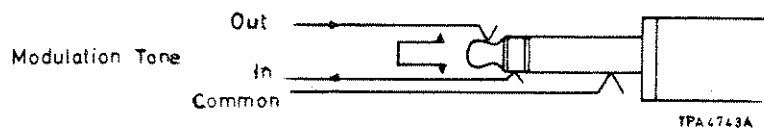

Fig. 2 Connections to external filter jack
(1) Remove both top and bottom outer covers, detach and discard front and rear feet on bottom cover.
(2) Detach and discard side trim infills, countersunk screws and screw cups.
(3) Remove the front panel assembly and lay face down protecting the l.c.d's.
(4) If it is required to bring the r.f. input in via the rear panel, carry out steps (5) to (8) otherwise go to step (9).
(5) Remove the r.f. input coaxial socket from the front panel and transfer it to the blanked-off position on the rear panel (see Figs. 2 and 3, pages 4 and 6 in Chapter 3 for precise locations). It is not necessary to remove either of the two coaxial terminals from the r.f. lead in this process. Note that the lead is doubled back on itself for the full depth of the instrument before returning to the miniature bulkhead connector on the r.f. box immediately behind the front panel.
(6) Unscrew the miniature connector and remove the type N r.f. input socket from the front panel by undoing the securing nut. Release the cable from its securing cleats and withdraw it completely from the instrument.
(7) Remove the blanking off grommet from the hole in the rear panel and put it in place of the connector in the front panel. Remove the type N securing nut and washer from the lead by passing them over the miniature connector. Feed the lead back into the instrument by passing the miniature connector through the hole in the rear panel. Replace the washer and nut on the lead by passing them over the miniature connector. Feed the lead fully through the rear panel and assemble the type N connector to the panel.
(8) The lead should be routed down through the recess in the edge of the bulkhead below the new input position. It can then be led diagonally across the base of the power supply, secured in place with a piece of adhesive tape, and returned to the original run of cleats along the bottom of the left-hand side panel and reconnected to the input bulkhead connector on the r.f. box.
(9) Fit the rack brackets in the recesses of the side trims or of the panel handles if these are to be retained, using the 16 mm M4 pan head screws and washers and discarding the plastic trim infills. Finally, refit top and bottom covers.
10. The connections are shown in Fig. 2. The source impedance is low - a few ohms - and the input impedance is 100 k $\Omega$ .